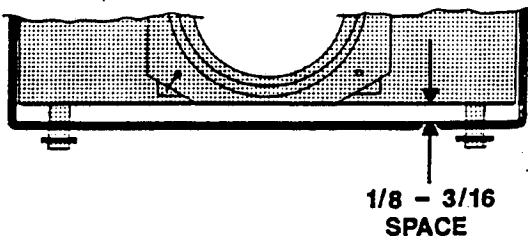

FIGURE 3.10
10. Wind the cable clockwise on the outer spool until the carriage is pulled back from the inner face of the base assembly (See Figure 3.10) 1/8 to 3/16 inch.